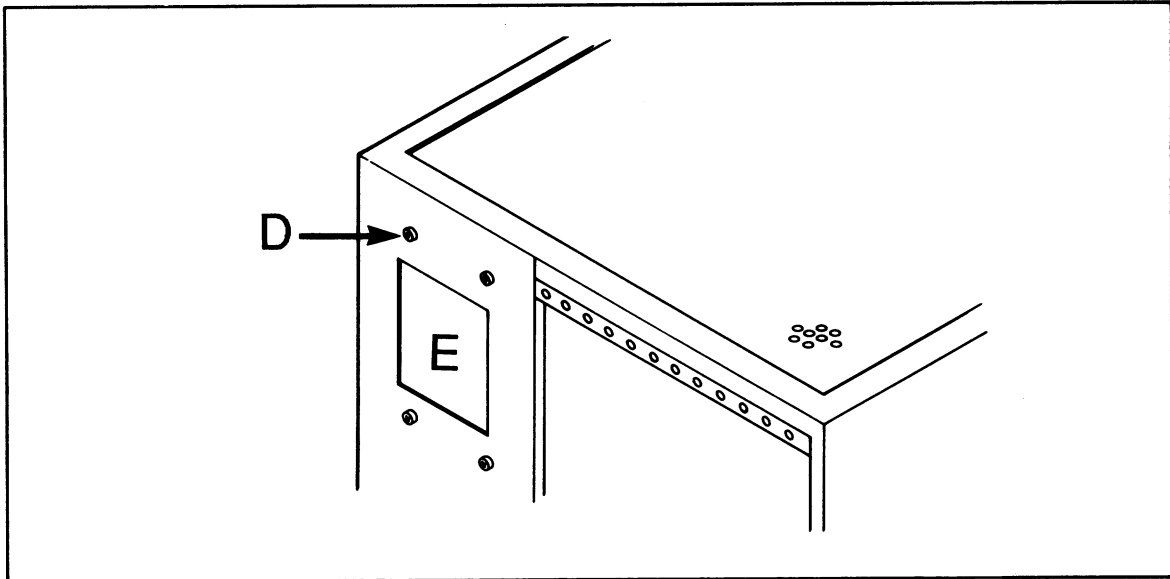

Figure 2-3 *Rear Filler Panel*
3. Refer to figure 2-3. The rear of the rack is closed by a bezel panel (not shown) held in place by four twist-lock fasteners. Unlock the twist-lock fasteners and remove the bezel panel.